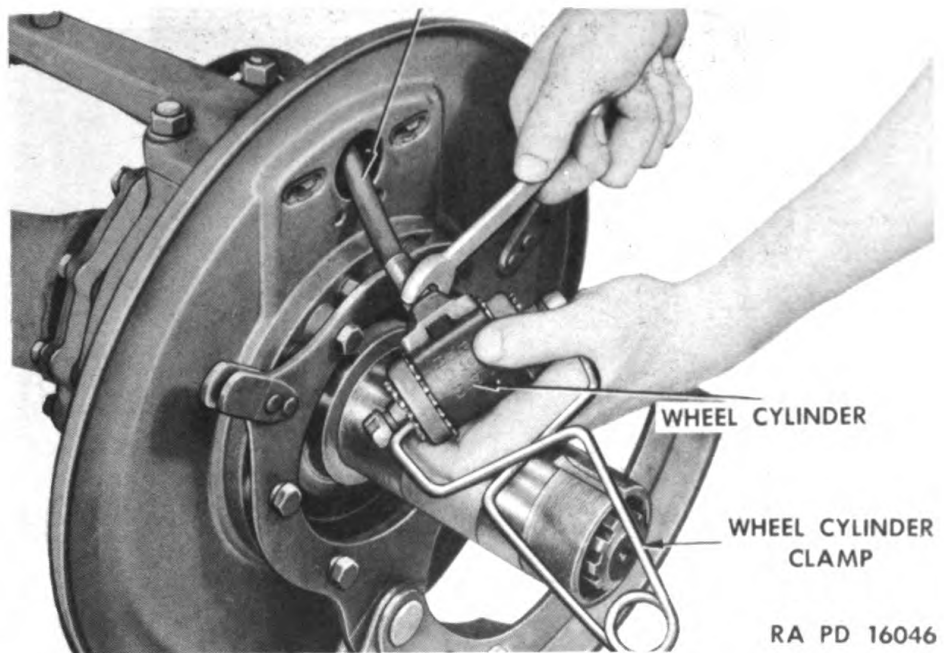

Figure 64—Removing Brake Flexible Hose from Wheel Cylinder
turn cylinder from flexible hose without twisting hose. See Fig. 64.
(6) Remove wheel cylinder (Fig. 64)